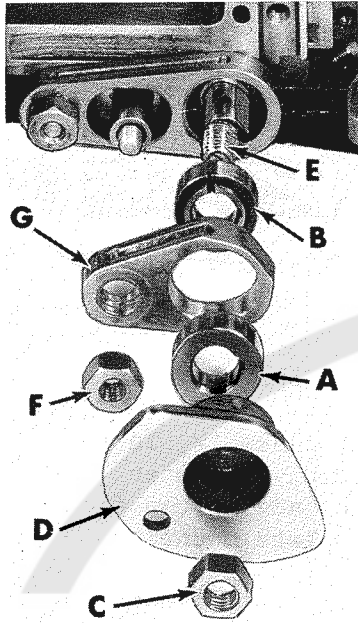
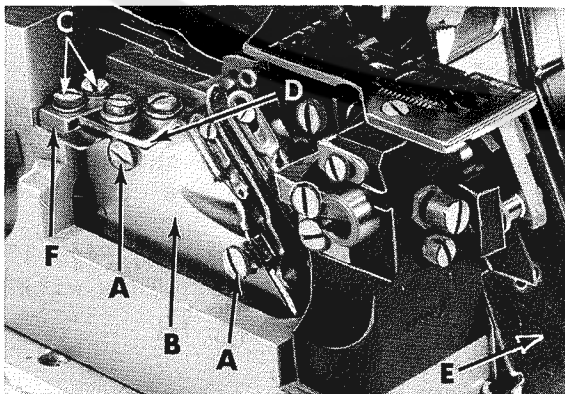

Fig. 17
Fig. 18
Length of stitch is determined by the combination of feed eccentrics used. Outer (left) eccentric (A, Fig. 17) actuates main (rear) feed dog, while the inner (right) eccentric (B) actuates the differential (front) feed dog. In assembling feed eccentrics, be sure hubs are facing each other. Be careful not to damage shaft or key.
To change feed eccentrics, remove screws (A, Fig. 18) securing cast-off support end plate (B); remove screws (C) and screw securing the extreme right end of cast-off support plate (D) accessible with chip chute (E) open; turning handwheel to position 401 looper at extreme right, permitting removal of the left main feed thrust bar guide (F) with cast-off support plate (D) assembled. Remove nut (C, Fig. 17) and looper thread take-up (D) from end of shaft (E). Turn handwheel in operating direction until key slot in eccentric is toward front. Using hooked eccentric extractor supplied with machine, reach behind eccentrics and withdraw eccentrics. It may be necessary to move handwheel back and forth slightly during extraction.
If eccentrics are unusually tight fitting, in addition to removing nut (C) and take-up (D, Fig. 17) from shaft (E), it may be helpful to remove nut (F) and feed driving connection (G). Then continue as originally suggested.
NOTE: Before tightening nut (C, Fig. 17) refer to paragraphs under "401 Looper Thread Control Adjustments".
NOTE: When eccentric cams are changed or looper thread take-up requires adjustment, always torque nut (C, Fig. 17) to 24-25 in. lbs. (28-29 cm/kg).